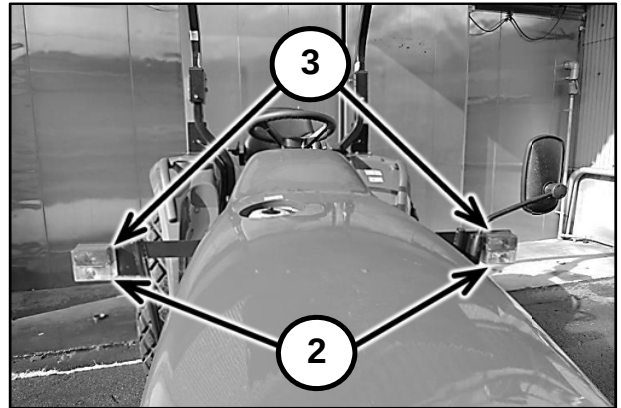

Figure 2-14
- Side and Front Position Lights (2) in Figure 2-14.
- Flasher Warning Lights / Turn Signals (3) in Figure 2-14.